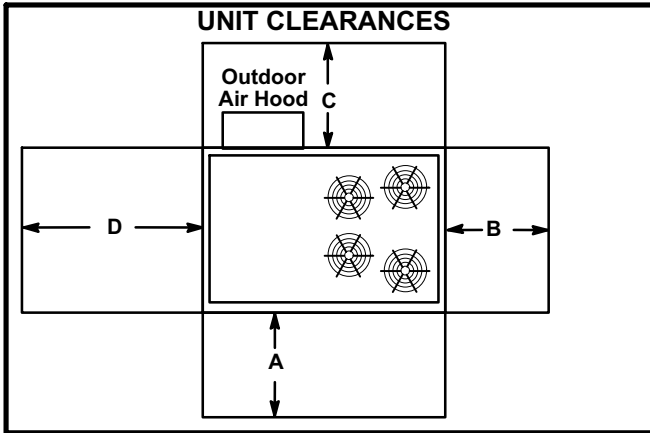

FIGURE 1
The KHA unit is ETL/CSA certified as a heat pump with cooling and with or without auxiliary electric heat for non-residential use only at the clearances to combustible materials as listed on the unit nameplate and in figure 1.
- 2- Specified installation clearances must be maintained when installing KHA units. Refer to figure 1.